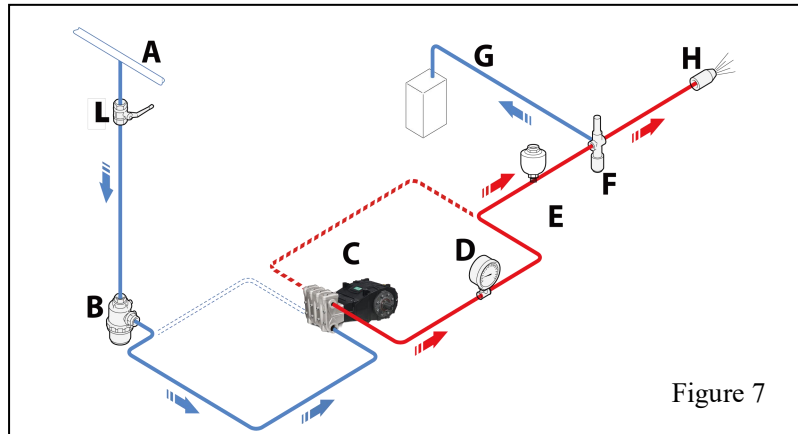

Figure 7
Below is a simple diagram of the pump connection to the main water supply pipe. Figure 7
9.7.6 Startup and shutdown of pumps when connecting water pipes (see Figure 7)